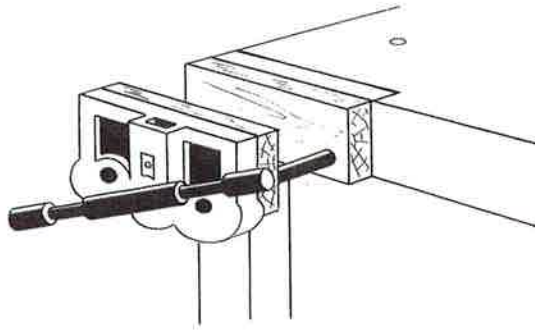
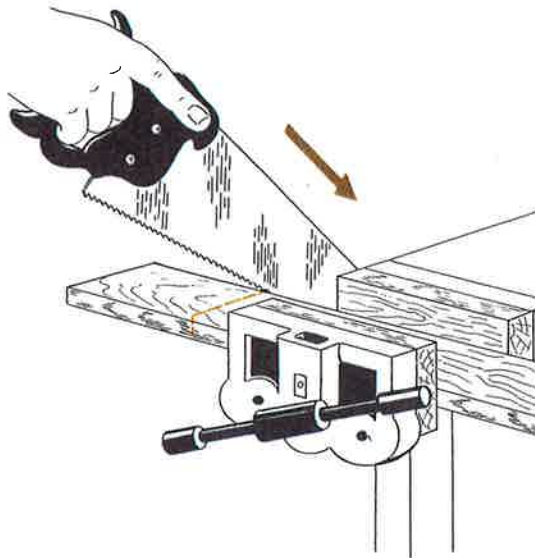
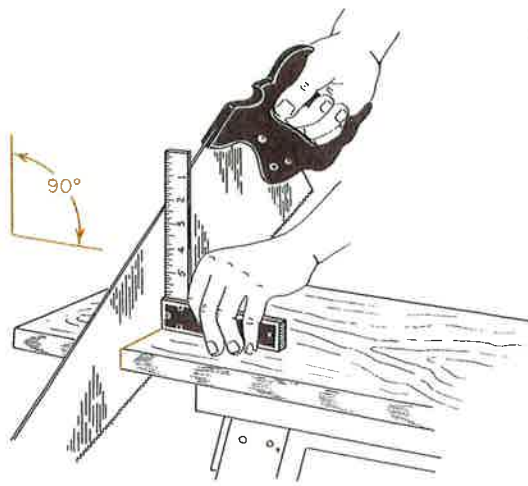

Fig. 8-10. Woodworker's bench vise.
Fig. 8-11. Board held in a woodworker's bench vise for crosscutting.
Fig. 8-14. Testing a saw cut with a try square.
Vise. A woodworker's bench vise holds lumber to be sawed. Before using this vise, make sure that you understand how it works by looking at Fig. 8-10. Figure 8-11 shows it in use.
2. Fasten the board in a bench vise if it can be held this way (Fig. 8-11). Wider or longer boards which cannot be firmly held in a vise should be laid across sawhorses (Fig. 8-14).
4. Make several short strokes. Test these cuts with a try square. Do this to see that the saw blade is cutting at right angles to the surface of the board (Fig. 8-14).